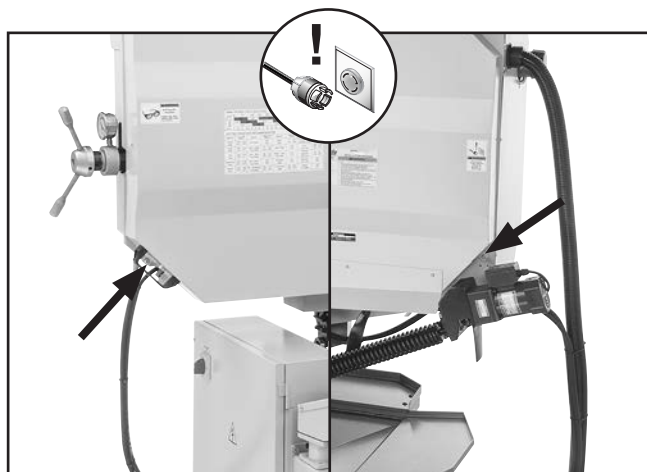

Figure 96. Wheel cover secure screw locations (2 of 4).
3. Open wheel cover by removing (4) button head cap screws (see **Figure 96**).